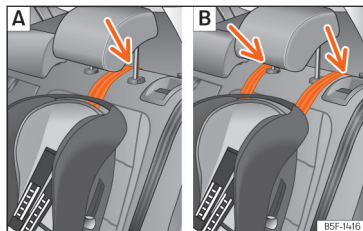

Fig. 41 Rear seats: adjustment and assembly according to the Top Tether belt.
- Position the belt under the headrest (according to the instructions of the seat itself, lift or remove the headrest if necessary) >>> **Fig. 41.**